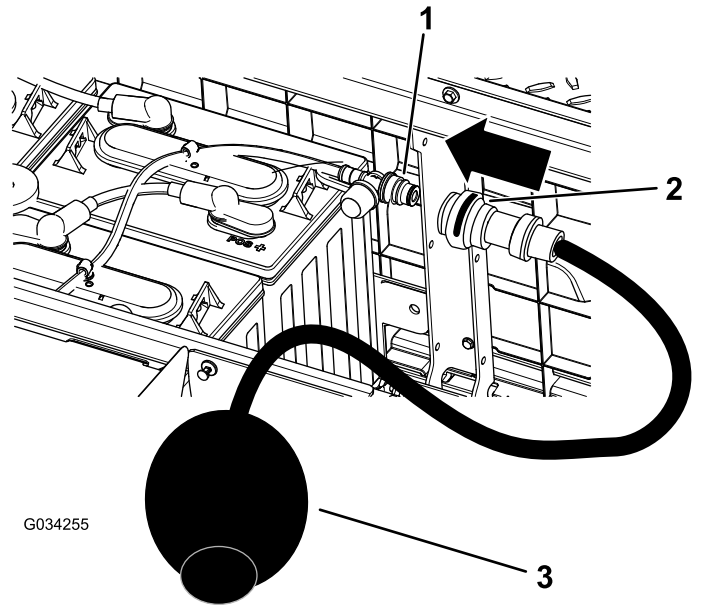

Figure 40
4. Connect your Toro water hand pump to the water-fill port (Figure 40).